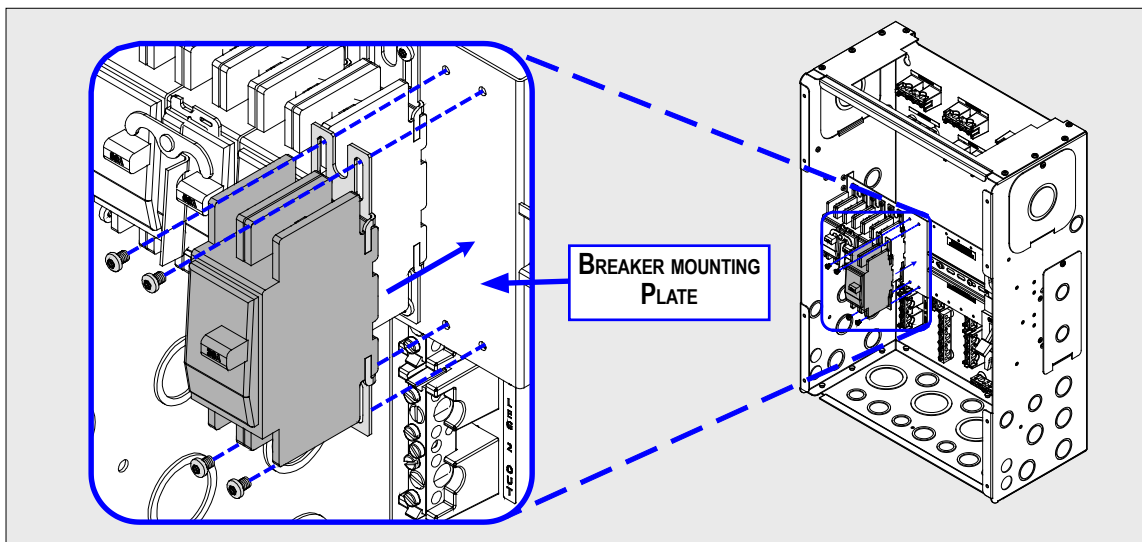
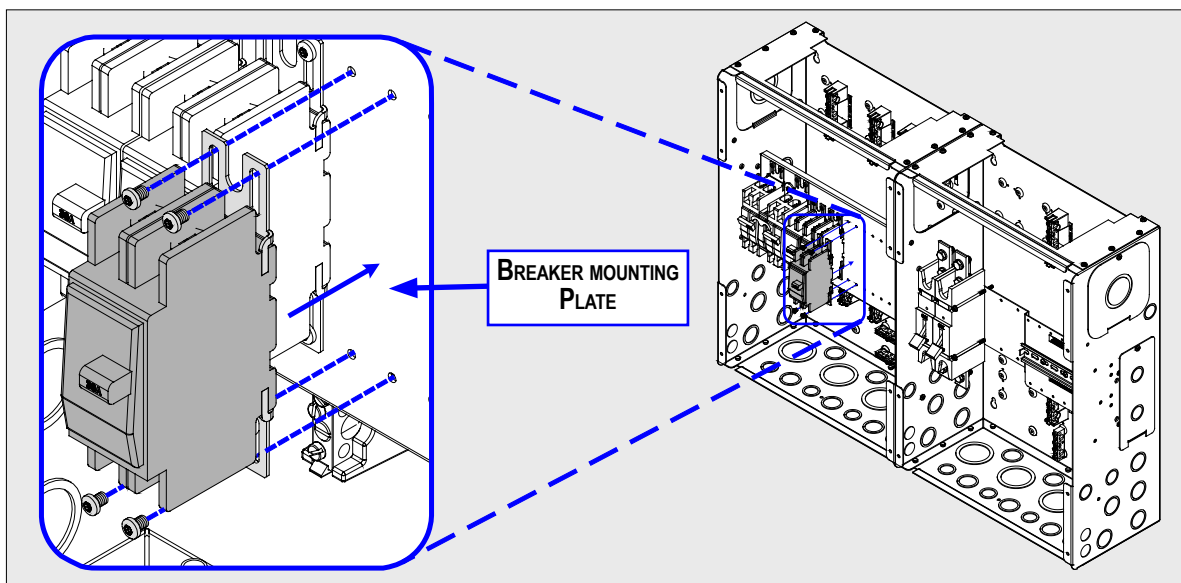

Figure A7-1, Installing AC Load Breakers - Single MP Enclosure
Figure A7-2, Installing AC Load Breakers - Dual MP Enclosure
1. While holding the new AC breaker against the MP's mounting plate, align the breaker's four mounting holes with the enclosure's mounting holes (see Figure A7-1). **Note:** The AC breakers are always installed in the left enclosure of a MP dual enclosure (see Figure A7-2).